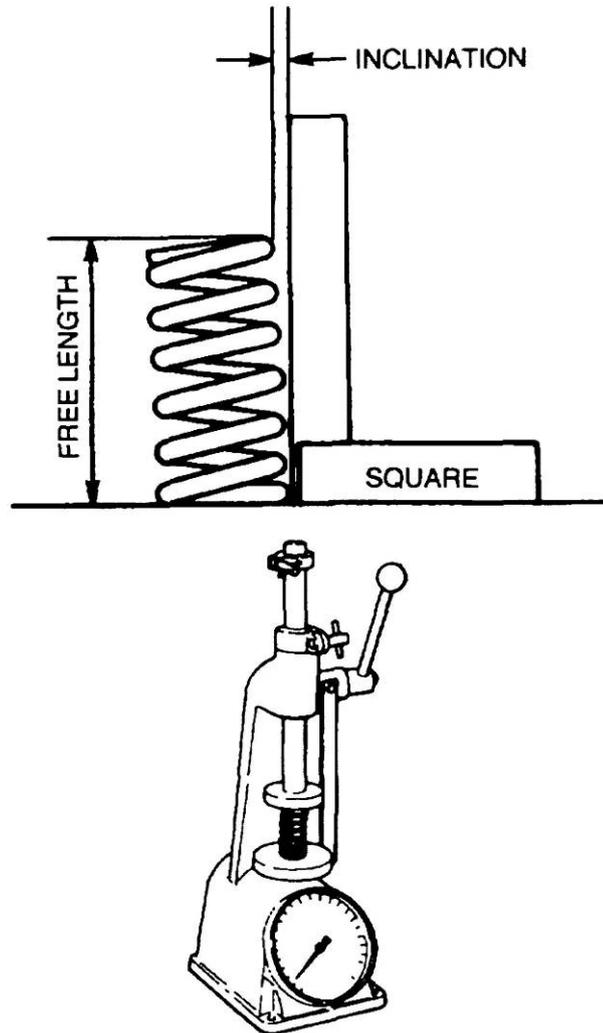

Figure 10 Checking the Free Length, Inclination and Tension of the Valve Springs
- p. Before installing the valve springs, check the condition of each spring. Check for cracks or damage and also check the free length, tension and inclination of the spring (Figure 10).